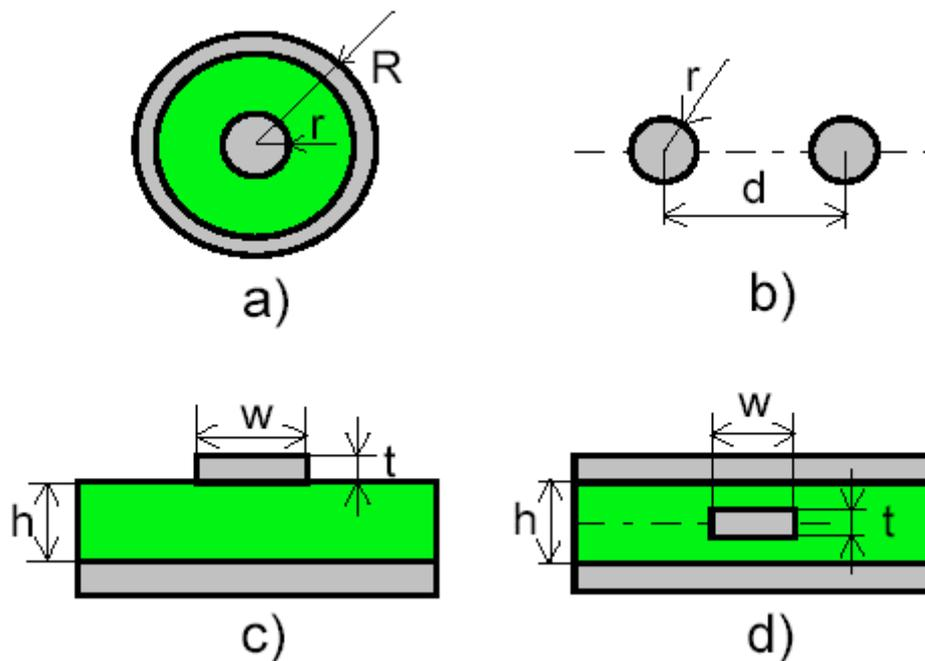

Figure 3 Cross sections of diffenert types of transmission lines: a) coaxial cable, b) twin lead line, c) microstrip line, d) stripline.
Transmission line consists of two parallel conductors held apart at a fixed distance by insulators or by insulation. It is used to transfer electrical energy, e.g. output rf energy. The types of transmission lines used for transmitting rf signals are presented in figure 3. The dielectric material is marked in green. It is a mechanical component of the transmission line and has influence on the line's electrical properties.
TRAVIS contains a Transmission Line Designer tool that allows you to see a graphical representation of a transmission line’s cross section. The Transmission Line Designer also features the ability to calculate any transmission line parameter given the others. Four different types of transmission lines are supported: microstrip, stripline, coaxial and twin lead. They are presented in figure 3. Table 1 contains characteristic impedance equations for different types of transmission lines.
3. Compare the characteristic impedance values for all four types of the transmission line from fig. 3 calculated from the equations given in Table I, and values of Z_0 obtained using TRAVIS software, provided that the air is the insulator.